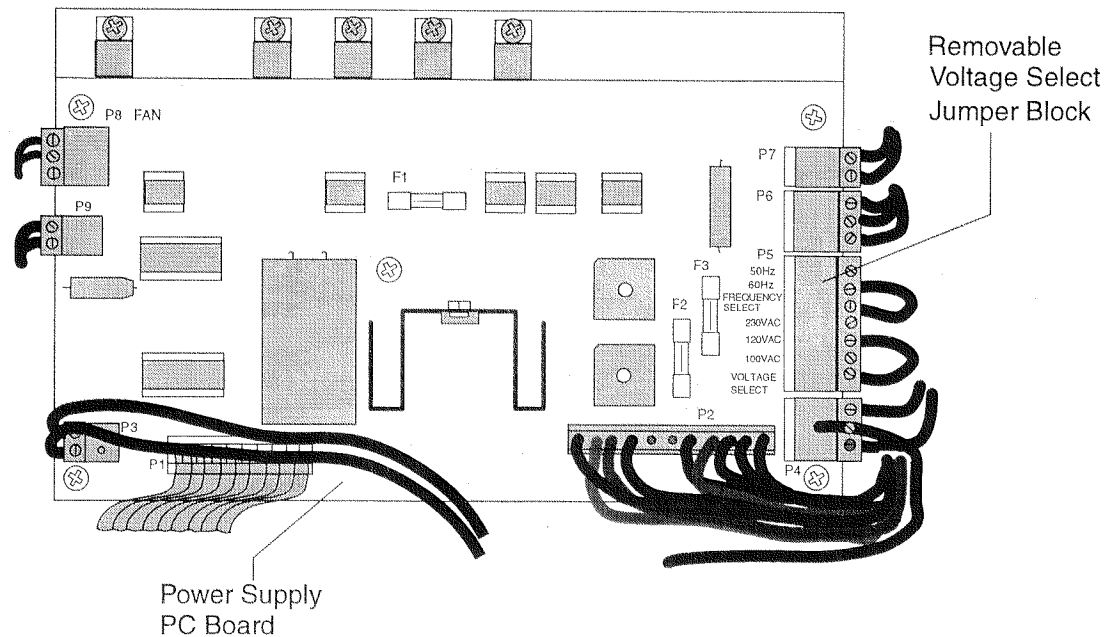

Figure 2.5. Power Supply Board and Voltage Select Jumper Block
4. Mounted just inside the fixture is the power supply printed circuit board. Locate the multi-pin “voltage select jumper block” connector on the lower right side of the circuit board as Figure 2.5 shows.